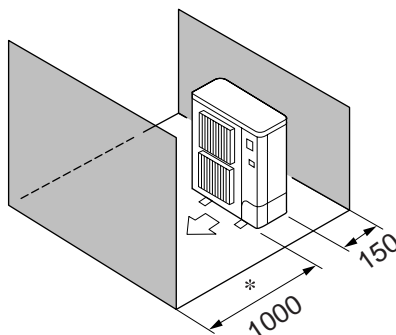

Fig.2-8
- Obstacles at front and rear only (Fig. 2-8)